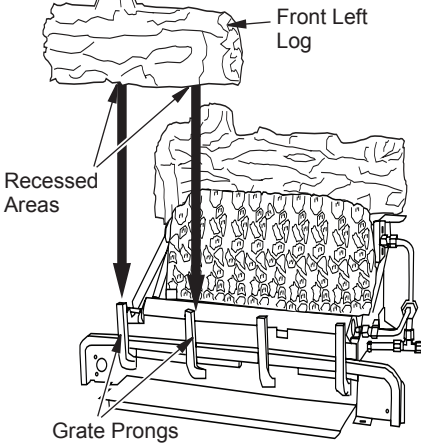

Figure 40 - Installing Front Left Log
3. Position front left log against left side of grate prongs (see Figure 40). The two recessed areas fit behind the two grate prongs.